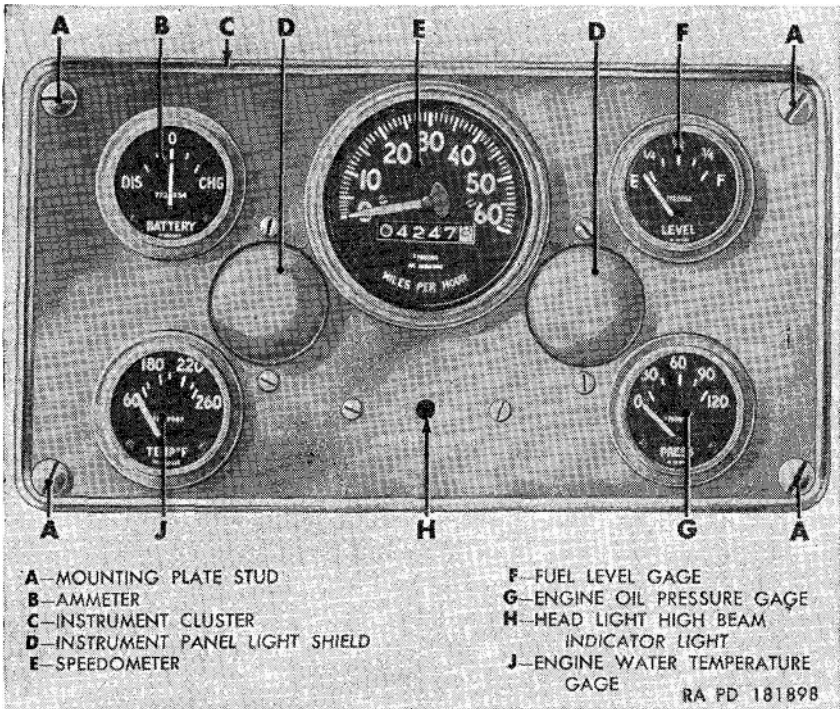

Figure 112. Instrument cluster (M38A1)—front view.
*a. Instrument Cluster* (figs. 112 and 113). The speedometer, ammeter, engine oil pressure gage, water temperature gage, fuel level gage, two instrument panel lights, and headlight high beam indicator light are mounted in the instrument panel mounting plate located in the instrument panel. This assembly is referred to as the instrument cluster. The location and function of the various units in the instrument cluster are described in paragraphs 33 through 39.
*a. Removal.* Disconnect the ground cable 7 (par. 162b (8) (a) and (b)). Turn each of the four instrument cluster mounting plate studs (A, fig. 112) one-half turn counterclockwise and pull instrument cluster free from instrument panel. Unscrew the nut securing the
40 at double connector R. Connect cable 17 at connector U. Connect cable 27 to connector T. Position speedometer flexible shaft assembly in rear of speedometer and tighten nut securing shaft to speedometer (DD). Install instrument cluster in instrument panel and secure in position by turning the four instrument cluster mounting plate studs (A, fig. 112) one-half turn clockwise. Connect ground cable 7 (par. 162b(9) (b) and (c)).
Disconnect ground cable 7 (par. 162b (8) (a) and (b)) . Turn the four instrument cluster mounting plate studs (A, fig. 112) one-half
turn counterclockwise and pull instrument cluster free from instrument panel. Disconnect cables 8 and 9 from terminals H and L. Remove the nuts and lockwashers (K) securing the ammeter (B, fig. 112) and ammeter mounting bracket (J) in position and remove bracket and ammeter from instrument panel mounting plate (E).
Position the ammeter in the instrument panel mounting plate (E) and rotate ammeter until it engages the locating slot in the plate. Position ammeter mounting bracket (J) over the ammeter and secure ammeter and bracket in position with two No. 8 lockwashers and nuts (K). Install cable 8 on terminal H and cable 9 on terminal L. Position the instrument cluster on the instrument panel and turn the four instrument cluster mounting plate studs (A, fig. 112) one-half turn clockwise. Connect ground cable 7 (par. 162b (9) (b) and (c)).
a. *Removal.* The removal procedure for the fuel level gage (F, fig. 112) is the same as the removal procedure for the ammeter (par. 174a) with the exception of the mounting bracket and the cables.
*b. Installation.* The installation procedure for the fuel level gage (F, fig. 112) is the same as installation procedure for the ammeter (par. 174b) with the exception of mounting bracket and cables. The fuel gage mounting bracket (B, fig. 114) is used. Install cable 28 on terminal (A, fig. 114) and cable 27 on terminal (D, fig. 114).
*a. Removal.* The removal procedure for the engine water temperature gage (J, fig. 112) is the same as the removal procedure for the ammeter (par. 174a) with the exception of the mounting bracket and the cables. Water temperature gage mounting bracket (N, fig. 114) is used. Disconnect cable 27 from terminal (Q, fig. 114) and cable 33 from terminal (M, fig. 114).
*a. Removal.* The removal procedure for the engine oil pressure gage (G, fig. 112) is the same as removal procedure for the ammeter (par. 174a) except for the mounting bracket and cables. Oil pressure gage mounting bracket (V, fig. 114) is used. Disconnect cable 27 from terminal (Y, fig. 114) and cable 36 from terminal (W, fig. 114).
*b. Installation.* Installation of the engine oil pressure gage (G, fig. 112) is the same as installation of the ammeter (par. 174b) with the exception of the mounting bracket and cables. Oil pressure gage mounting bracket (V, fig. 114) is used. Install cable 36 on terminal (W, fig. 114) and cable 27 on terminal (Y, fig. 114).
- (1) Turn the four instrument cluster mounting plate studs (A, fig. 112) one-half turn counterclockwise and pull the instrument cluster free from instrument panel.
- (2) Unscrew the nut securing the speedometer flexible shaft assembly to the speedometer (DD), and pull shaft out of speedometer.
- (3) Remove the nut (CC), lockwasher, and plain washer securing the instrument cluster circuit breaker-to-gages wiring harness
- (1) Position the speedometer (DD) in the instrument panel mounting plate (E) and locate speedometer mounting bracket (F) over speedometer mounting studs.
- (2) Install a No. 8 lockwasher on speedometer lower mounting stud, and screw the wiring harness mounting stud (BB) on the speedometer mounting stud.
- (3) Install the 0.322-inch ID plain washer, instrument cluster circuit breaker-to-gages wiring harness (AA), 0.203-inch ID plain washer, and No. 8 nut (CC) on the wiring harness mounting stud. Install a No. 8 lockwasher and nut (G) on the remaining speedometer mounting stud.
- (4) Install the speedometer flexible shaft assembly in the speedometer (DD) and tighten nut securely.
- (5) Position instrument cluster on instrument panel and turn the four instrument cluster mounting plate studs (A, *fig. 112*) one-half turn clockwise.
*a. Removal (M38A1).* Turn the four instrument cluster mounting plate studs (A, *fig. 112*) one-half turn counterclockwise and pull instrument cluster free from instrument panel. The two instrument panel lights with cables are permanently connected together in double connector (R) and must be replaced as one unit. Disconnect cable 40
at double connector (R). - Remove the **four** screws and lockwashers securing the instrument panel lights (Z) to the instrument panel mounting plate (E) and remove lights and instrument panel light shields (D, *fig. 112*).
*b. Installation (211.38A1).* Position the instrument panel light shields (D, *fig. 112*) in the instrument panel mounting plate (E). Position the two instrument panel lights on the plate and secure each one with two No. 8 x  $\frac{3}{16}$  screws and No. 8 lockwashers. Connect cable 40 to double connector R. Position instrument cluster on instrument panel and turn the four instrument cluster mounting plate studs (A, *fig. 112*) one-half turn clockwise.
*e. Lamp Replacement (M38A1).* Turn the four instrument cluster mounting plate studs (A, *fig. 112*) one-half turn counterclockwise and pull instrument cluster free from instrument panel. Press in on the cover of the instrument panel light (Z), turn counterclockwise and pull cover off light body. Press in and turn lamp counterclockwise, to disengage it from lamp socket and remove lamp. Install new lamp by pressing lamp into socket and turning clockwise. Install instrument panel light cover by pressing in and turning clockwise in lamp body. Position instrument cluster on instrument panel and turn the four instrument cluster mounting plate studs (A, *fig. 112*) one-half turn clockwise.
*a. Removal (M38A1).* Turn the four instrument cluster mounting plate studs (A, fig. 112) one-half turn counterclockwise and pull instrument cluster free from instrument panel. Disconnect cable 17 at connector (U, fig. 114). Remove the two screws and lockwashers securing the headlight high beam indicator light in position and remove indicator light.
*b. Installation (M38A1).* Position the headlight high beam indicator light (S, fig. 114) on the instrument panel mounting plate (E, fig. 114) and secure in position with two No. 8 x  $\frac{1}{2}$  screws and No. 8 lockwashers. Connect cable 17 to connector (U, fig. 114). Position instrument cluster on instrument panel and turn the four instrument cluster mounting plate studs (A, fig. 112) one-half turn clockwise.
*e. Lamp Replacement (M38A1).* Turn the four instrument cluster mounting plate studs (A, fig. 112) one-half turn counterclockwise and pull instrument cluster free from instrument panel. Turn the cover of the headlight high beam indicator light (S, fig. 114) counterclockwise and pull cover out of light body. Press in and turn lamp counterclockwise to disengage it from lamp socket. Install new lamp by pressing it into lamp socket and rotating clockwise. Position indicator light cover on light body, press in and turn cover clockwise to engage with light body. Position instrument cluster on instrument panel and turn the four instrument cluster mounting plate studs (A, fig. 112) one-half turn clockwise.